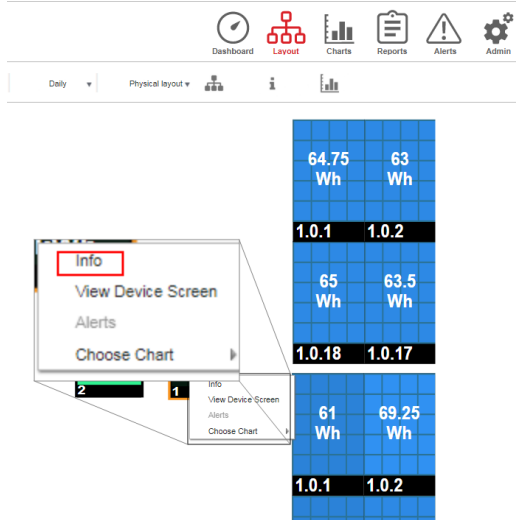
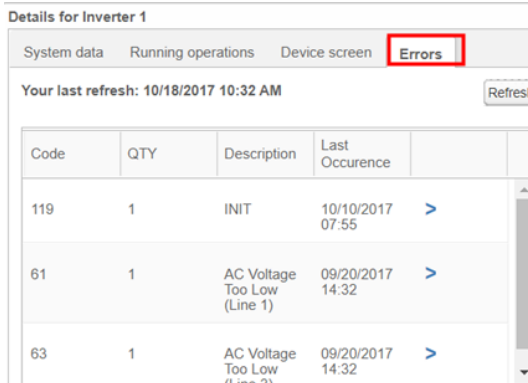

Figure 23: Inverter menu
Figure 24: Inverter details - Error list
2. Right-click the inverter and select **Info** from the menu (Figure 23). The inverter details window is displayed (Figure 24).